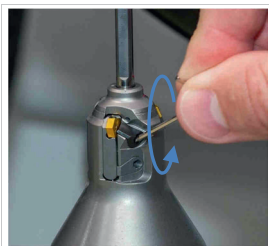

Fig. 10: Loosening the clamping screw
2. Loosen the clamping screw with a suitable Allen key by turning the clamping screw **approx. 1½ turns** anti-clockwise (see Fig. 10: *Loosening the clamping screw*).